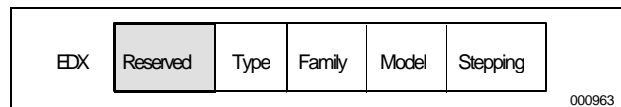
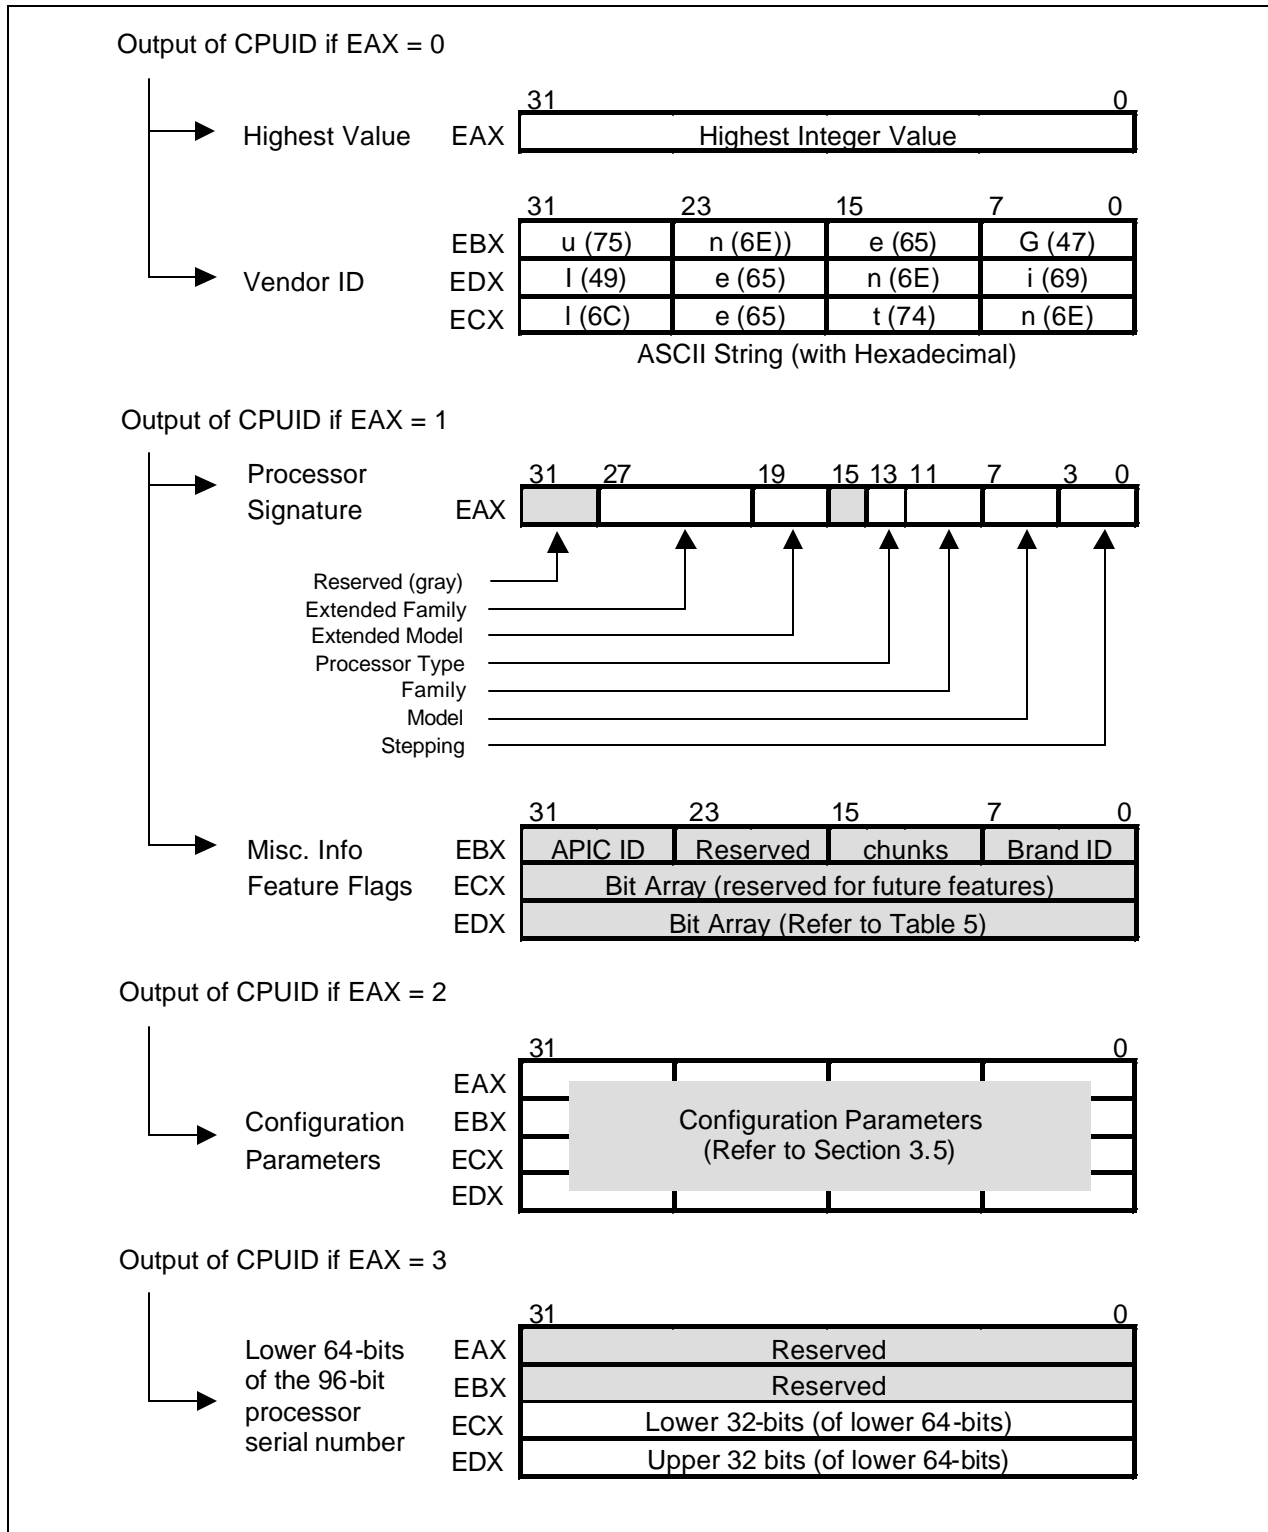

Figure 2. EDX Register after RESET
Figure 3. CPUID Instruction Outputs
-017	<p>Modified Figure 3 to include additional features reported by the Pentium 4 processors.</p> <p>Modified Table 7 to include additional Cache and TLB descriptors defined by the Intel® NetBurst™ Micro-Architecture.</p> <p>Added Section 11 and program Example 5 which describes how to detect if a processor supports the DAZ feature.</p> <p>Added Section 12 and program Example 6 which describes a method of calculating the actual operating frequency of the processor.</p>
Figure 3 summarizes the outputs of the CPUID instruction. The function of the CPUID instruction is fully dependent upon the contents of the EAX register. This means, by placing different values in the EAX register and then executing CPUID, the CPUID instruction will perform a specific function dependent upon whatever value is resident in the EAX register (see Table 1). In order to determine the highest acceptable value for the EAX register input and CPUID operation, the program should set the EAX register parameter value to “0” and then execute the CPUID instruction as follows
In addition to returning the highest value in the EAX register, the Intel Vendor-ID string can be simultaneously verified as well. If the EAX register contains an input value of 0, the CPUID instruction also returns the vendor identification string in the EBX, EDX, and ECX registers (see Figure 3). These registers contain the ASCII string:
Beginning with the Intel486 processor family, the EDX register contains the processor identification signature after reset (see Figure 2).
Processors that implement the CPUID instruction also return the processor identification signature after reset; however, the CPUID instruction gives you the flexibility of checking the processor signature at any time. Figure 2 shows the format of the signature for the Intel486, Pentium, Pentium Pro, Pentium II processors, Pentium II Xeon processors, Pentium II Overdrive processors, Intel Celeron processors, Pentium III processors, and Pentium III Xeon processors. The Pentium 4 processor also utilizes the extended family as shown in Figure 3. Note that the EDX processor signature value after reset is equivalent to the processor signature output value in the EAX register in Figure 3. Table 4 shows the values returned in the EAX register currently defined for these processors.
In the event that an IA-32 processors Family or Model fields exceed 0Eh, the format of the returned data in EAX when the CUID instruction is executed with EAX = 1 will change to match Figure 3. If the Family field EAX[11:8] contains the value 0Fh, that indicates the Extended Family field is valid. If the Model field EAX[7:4] contains the value 0Fh, that indicates the Extended Model field is valid. The extended Family field is represented in EAX[27:20]. The extended Model field is represented in EAX[19:16].